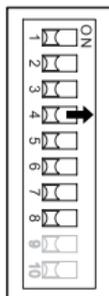

Fig. 6b: Inhibiting coins
- 2** Use a pointed object to push the respective DIL switch (1 to 8) toward the right-hand side to ON (e.g. DIL switch 4 for inhibiting coin channel 4, see Fig. 6b). The coin type assigned to this channel/switch will no longer be accepted and will be directed into the return area from now on.